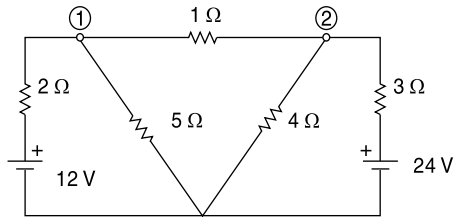

Fig. 4.41 Circuit of Ex. 4.27
4.27 Obtain the current through the $1\ \Omega$ resistor using node voltage method for the circuit shown in Fig. 4.41.
Let us first mark the nodes '1' and '2' in Fig. 4.41 and assume corresponding nodal voltages to be V_1 and V_2 .